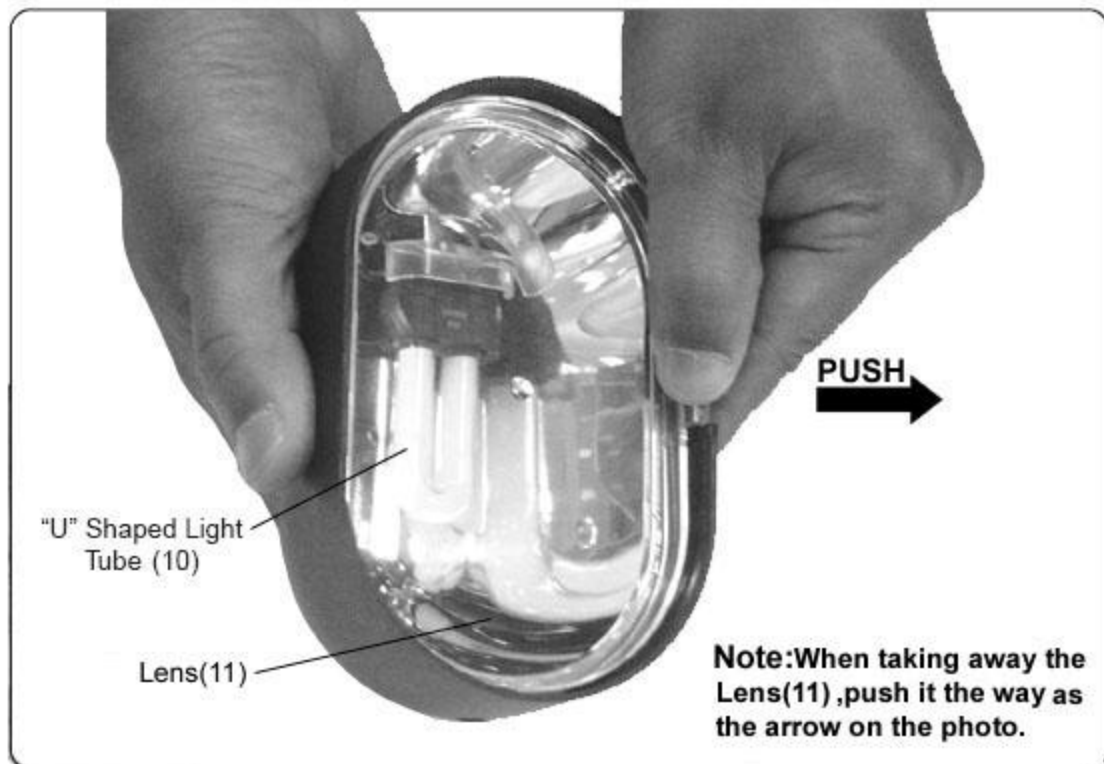

Figure 4
1. Remove the Lens (11) from the Shed Light by lightly squeezing it and gently lifting on the tab and pulling it off. *See Figure 4.*
2. Gently grasp the old Light Tube (10). Turn it so that the pins at the end of each end of the light are in line with the slot so that it can be pulled out. Pull out the old Light Tube. Dispose of it according to warnings on page 7. *See Figure 4.*